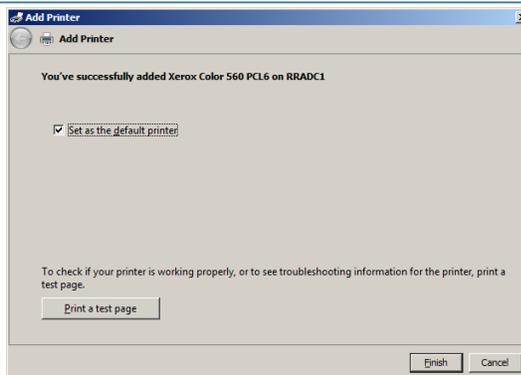

Figure 10-37 - Printing a Test Page
- 18) Once you have selected the proper driver or the computer has automatically installed the proper driver you will be presented with Figure 10-37 as shown below indicating a successful printer installation.